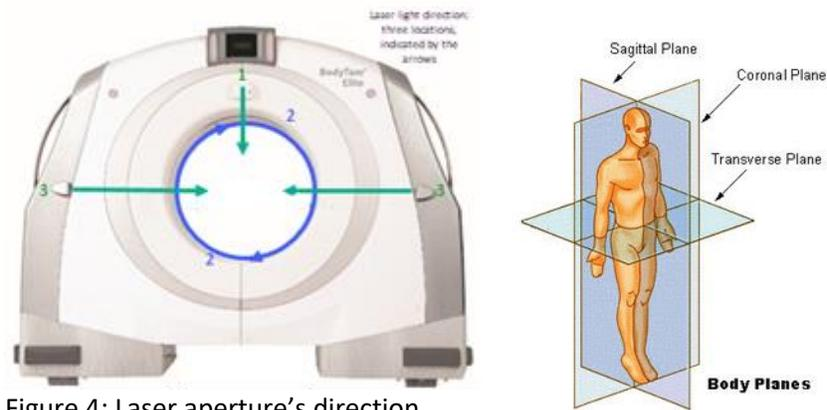

Figure 4: Laser aperture's direction
There are four lasers used with the BodyTom 64 system as indicated in Figure 4 on page 57: 1 laser (Sagittal) at position **1**, 1 laser (Axial or Transverse) at position **2** (which is mounted internally and spins within the system's bore), and 1 set of external lasers (Coronal and Transverse/Axial) at position **3**.
- Lasers **1** and **3** (see Figure 4):
- Laser **2** (see Figure 4):